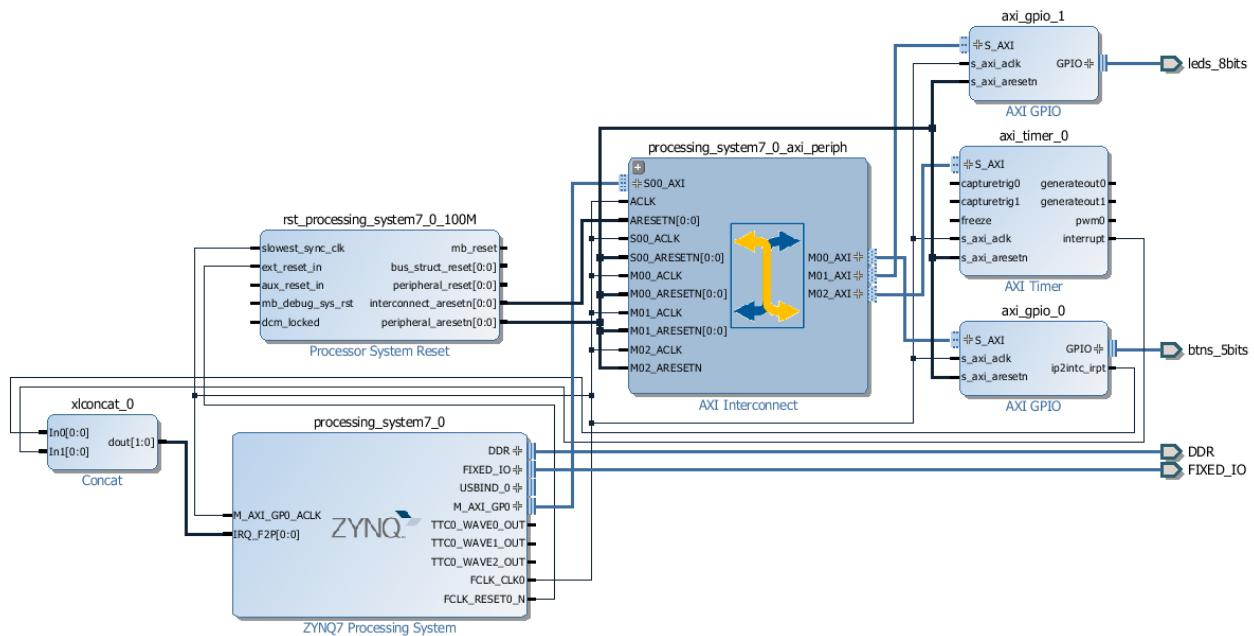

Figure 2.29: Complete system with multiple interrupt sources
- (g) Remove the connection to **IRQ_F2P[0:0]** on the Zynq PS by clicking it and pressing DELETE. Connect the output from the **Concat** block, **xlconcat_0** to this instead. Then, connect the interrupt request from the GPIO to **In0[0:0]** and the interrupt from the timer to **In1[0:0]**, creating a shared interrupt signal that is passed to the PS. Your block diagram should be similar to Figure 2.29.